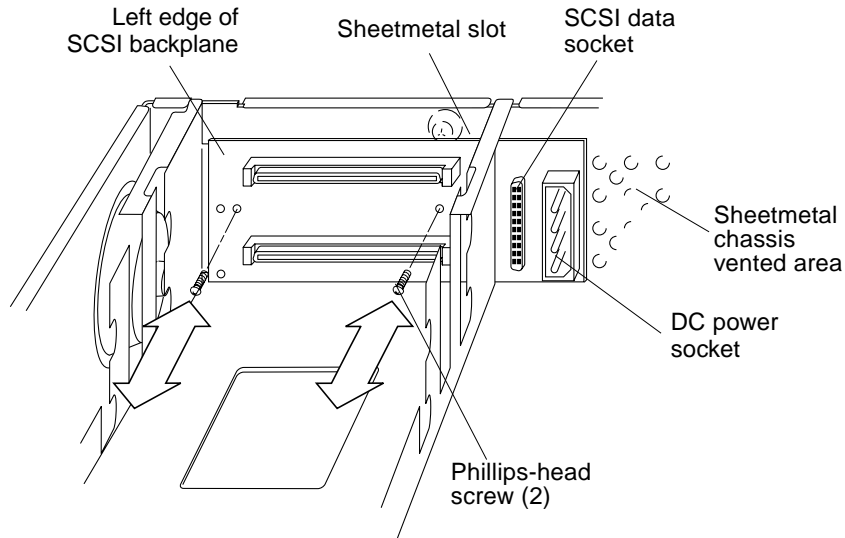

FIGURE 8-27 SCSI Backplane Screws
5. Remove the two Phillips-head screws that secure the SCSI backplane to the plastic mounting bracket (FIGURE 8-27).
1. Replace the SCSI backplane bracket as follows (FIGURE 8-27):